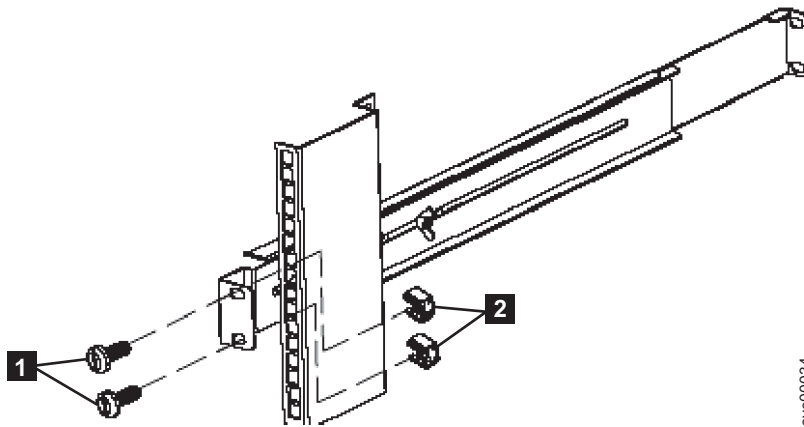

Figure 280. Securing the rear rail on the 2145-1U uninterruptible power supply
7. Using two M6 × 10 screws (**1** in Figure 280) and two clip nuts **2**, attach the rail to the rear of the rack. The customer's rack might be different than the one shown here, and if so, might require different clip nuts or fasteners.